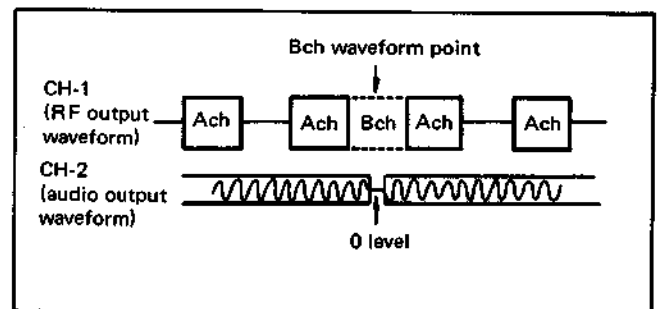

Fig. 1-23 Position Adjustment of ACE Assembly (1)
- (2) Play back (βII mode) the 1MHz segment of alignment tape (KR5-1M) (See Fig. 1-23).
- (3) Set the tracking control to the center detent position and confirm that the output waveform level is maximum and the 0 level point of the audio signal appears at the Bch waveform point as shown in Fig. 1-23. If the specification is not satisfied, perform the following Step 4.
- (4) Perform the tracking control center adjustment.
- (5) Set the TRACKING control knob to its center detent point and play back the 1MHz segment of the alignment tape (KR5-1M).
- (6) Loosen the two position adjusting screws of the ACE head and adjust the cut-out section of section A for maximum RF output waveform and a 0 level of audio signal at the Bch waveform point. (See Fig. 1-23.)